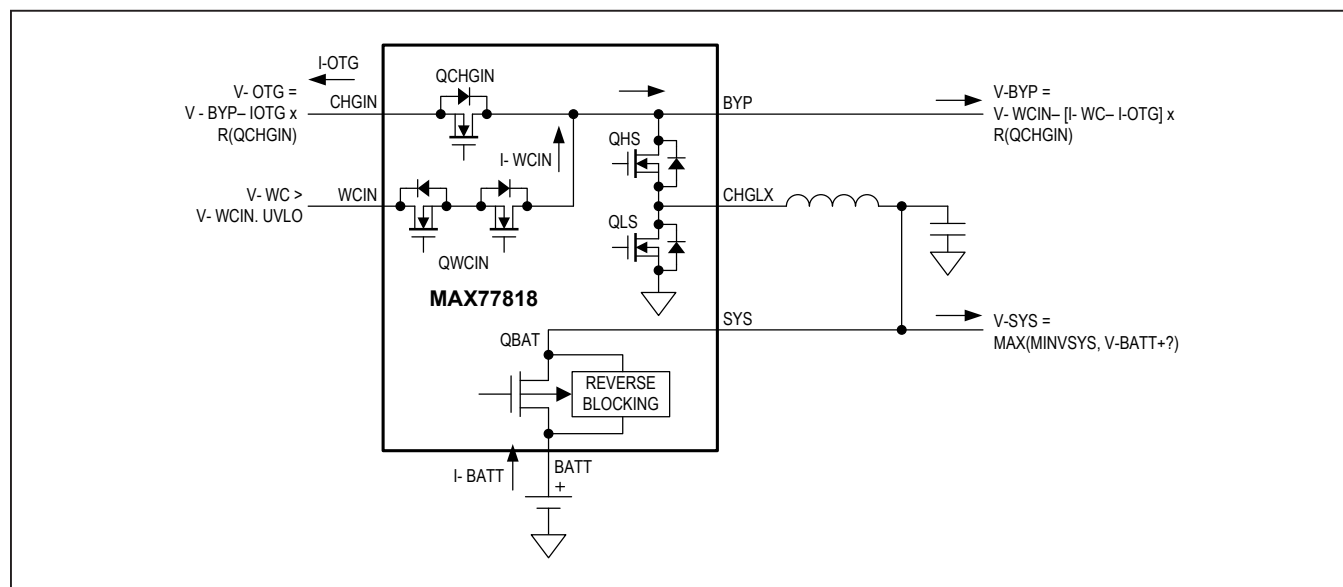

Figure 15. No Charge Buck (OTG)
**No Charge Buck (OTG), MODE = 0x0E:** Wireless charger is detected within the input voltage operating range (QWCIN = on) and OTG is active (QCHGIN = of). Battery is connected in charge mode (QBAT = on), and charger is operating in buck mode. See Figure 15.